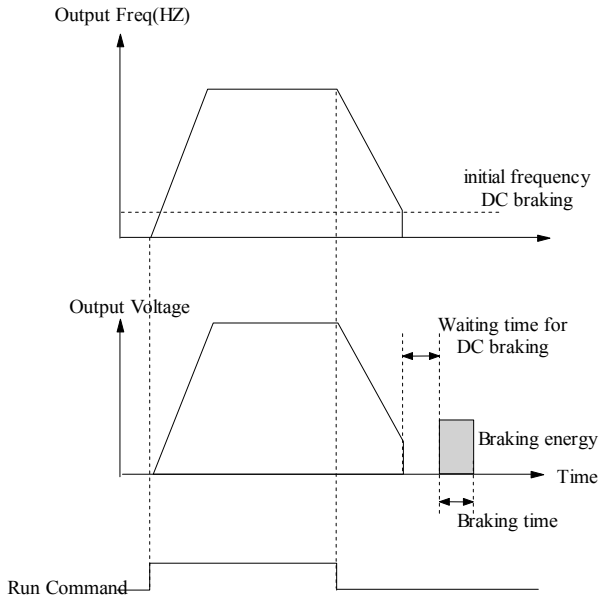

Fig. 5-3-5 DC braking
- ◆ Use the terminal to perform DC braking to the system during the stopping process for accurate positioning of the motor. Braking starting frequency, braking waiting time, brake current are defined in P1.11 ~ P1.14; the braking time is bigger one between the time defined by P1.15 and the effective duration of the control terminal, which is as shown in Fig. 5-3-5.